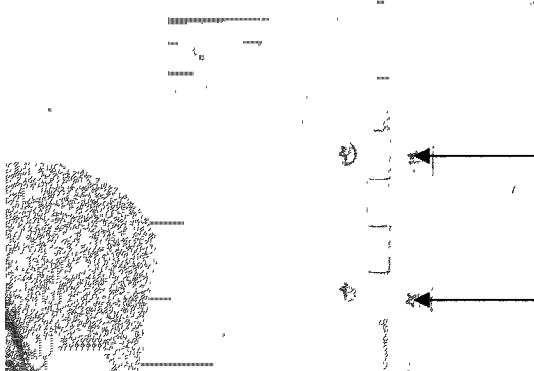

Figure 3
3 Place door on a towel or pad handle side down to prevent any possible scratches to door. Remove all remaining four (4) screws between hinge and door (Figure 3)